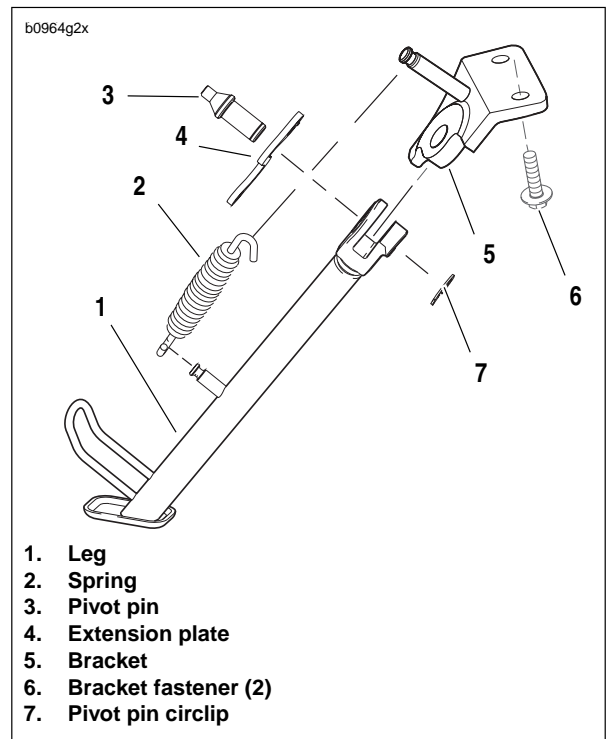

Figure 2-138. Sidestand Assembly
1. See Figure 2-138. Install sidestand leg (1).
- b. See Figure 2-138. Install the sidestand leg (1) to the bracket (5) by installing the pivot pin (3) and pivot pin circlip (7).
- d. Install spring extension plate (6) and sidestand spring (7) using SNAP-ON SPRING TOOL (Part No. HE-52B).
1. See Figure 2-138. Apply LOCTITE 271 (red) to the sidestand bracket fasteners (6). Loosely install the sidestand assembly to the crankcase with the sidestand bracket fasteners (6). Extend the sidestand leg (1) and hold forward in the fully extended position while tightening the sidestand bracket fasteners (6) in the following sequence: